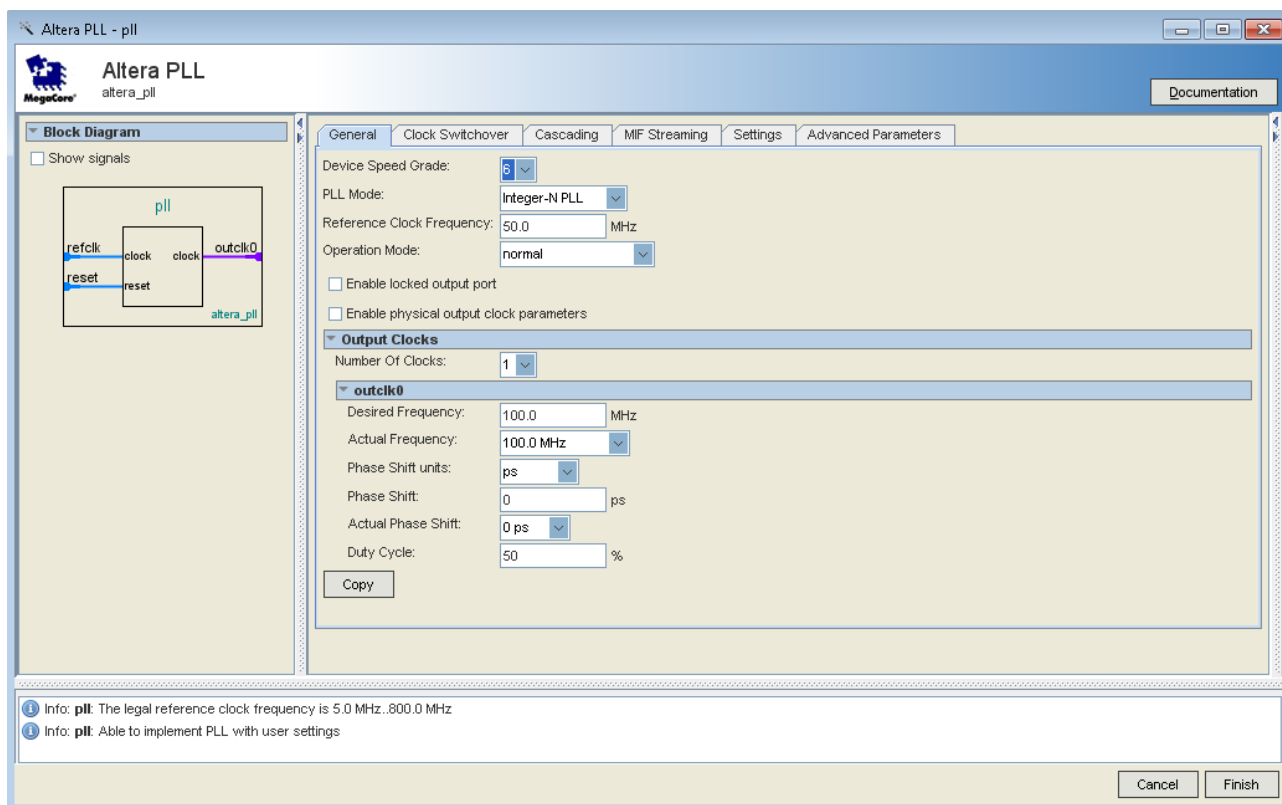

Figure 3-11 MegaWizard Plug-In Manager Selections
6. Turn off the Enable locked output port option on MegaWizard . As you turn it off, pin disappear from the PLL block's graphical preview. See Figure 3-11 for an example.